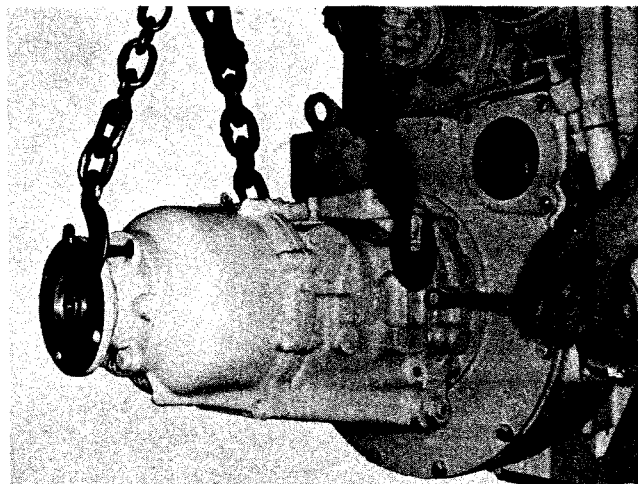

Fig. 5-6, (V10058). Removing marine gear
4. Using a suitable hoist attached to marine gear, snug tighten chain on hoist. Remove capscrews and lockwashers securing marine gear to adapter plate. Fig. 5-6. Lift marine